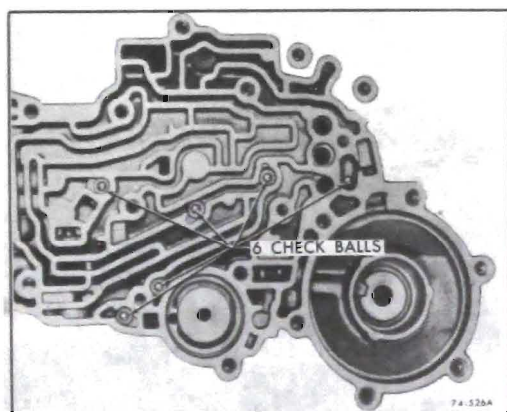

Figure 76-772
6. Install six (6) check balls into transmission case pockets. See Figure 76-772.